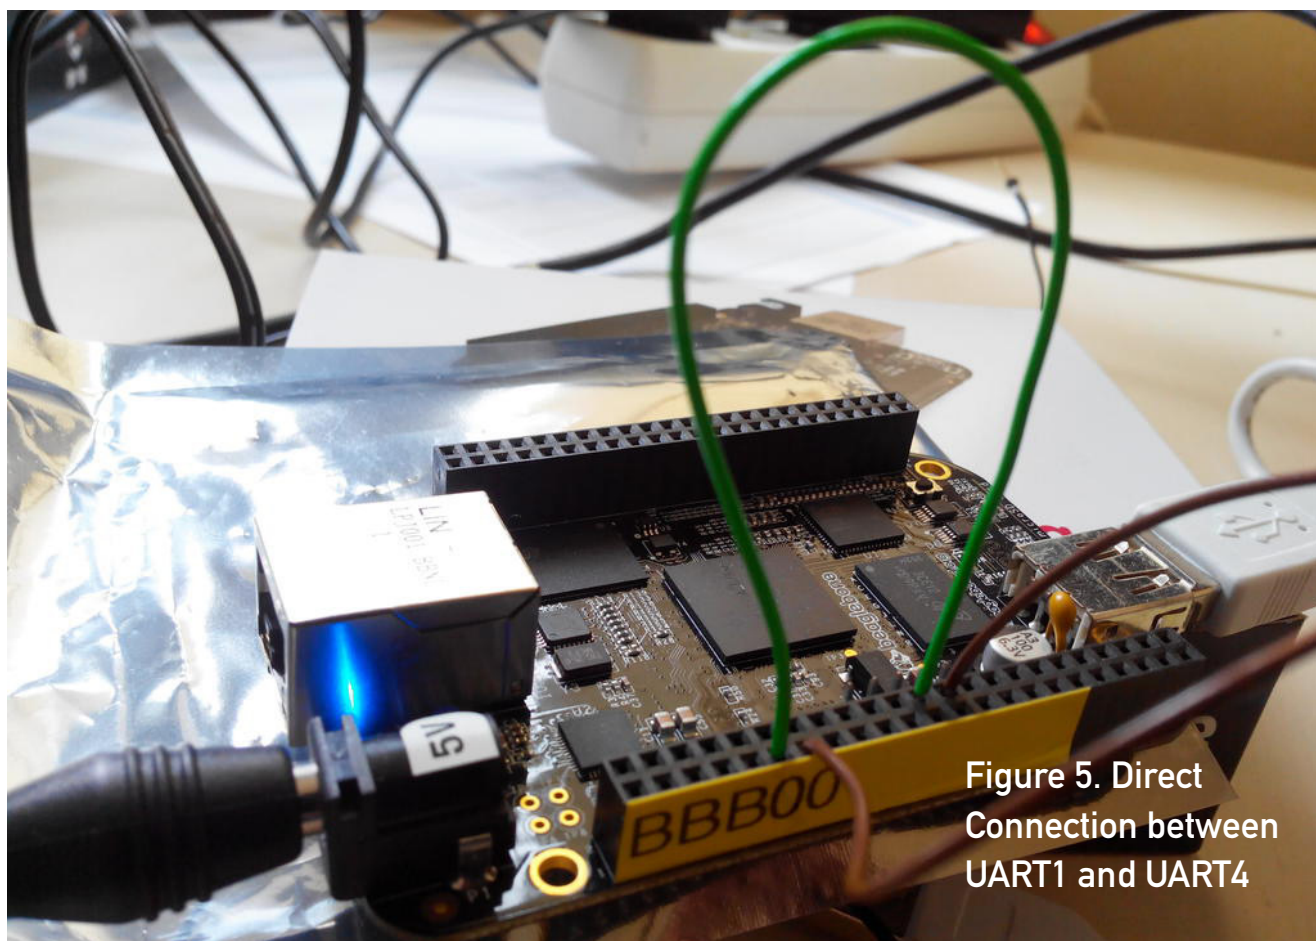

Figure 5. Direct Connection between UART1 and UART4
**Okay, but Does It Work?** To test the serial lines, we just have to connect two of them together (Figure 5).